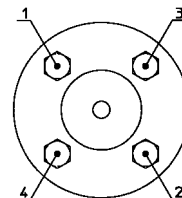

Fig. 4 - Screwing sequence
- avoid misalignment between piping and instrument ends. Check if face to face connecting dimension(CC) fits correctly with distance between piping ends.
- using a torque wrench, check level gauge bolting torque as indicated in Fig. 4 and in Table 2.
- Unscrew nuts (7) following sequence shown in Fig. 4
- Remove bottom flange (3) and sealing joint (15).
- Remove float (99) carefully. **WARNING: in some case float could be pressurised inside.**
1. Insert float (99) inside body (1), looking for correct position, maintaining the small filling tube of float on the upper part of level gauge.
2. Place sealing joint (15) in its flange housing (3).
3. Clean studs or bolts (8) and nuts (7); grease threads and nut surface contacting flanges.
4. Hand screw nuts until they touch flanges, following sequence shown in Fig. 4.
5. Using a torque wrench, screw bolts using a 5 Nm torque, always following sequence in Fig. 4. Repeat 3 times with increasing bolting torques until final bolting torque, as shown in Table 2, has been reached.